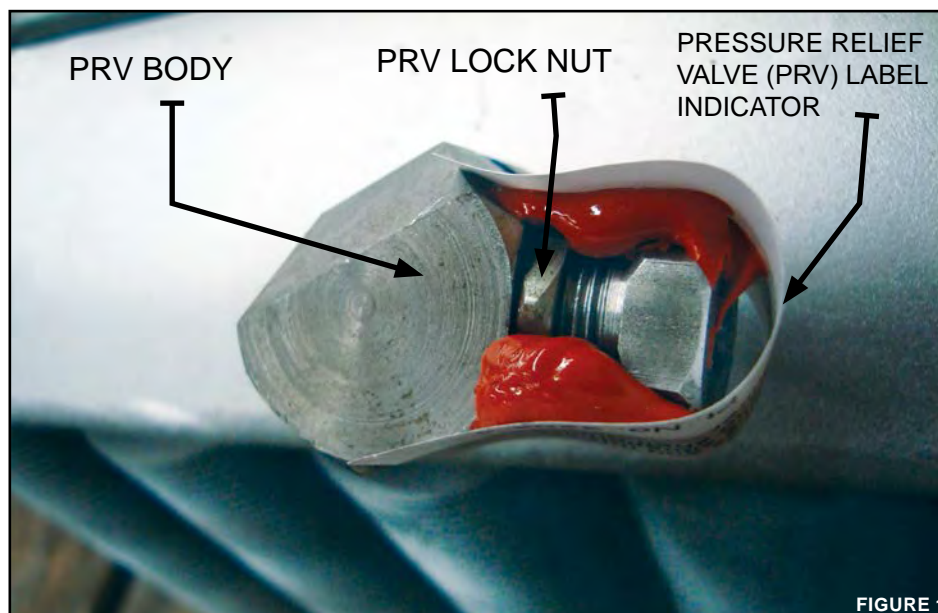

FIGURE 1
| 1. CLEAN | <input type="checkbox"/> Finned Tubes<input type="checkbox"/> Fan<input type="checkbox"/> Fan Guard<input type="checkbox"/> Motor<input type="checkbox"/> Louvers | 2. CHECK | <input type="checkbox"/> Motor for smooth, quiet operation<input type="checkbox"/> Louvers for proper angle and tightness<input type="checkbox"/> All explosion-proof covers for tightness<input type="checkbox"/> Pressure relief device for signs of leakage. See Figure 1 and refer to the ANNUAL Section (see below) item 2 for further instructions |